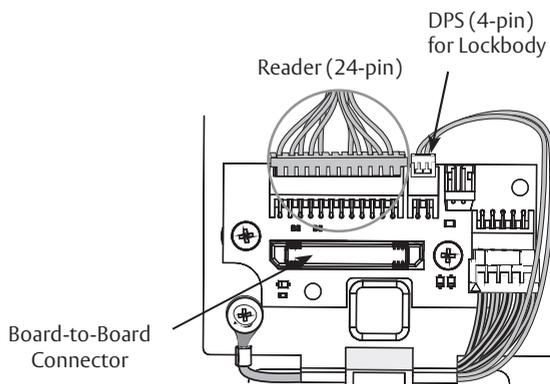

Fig. 6F
- k. Secure 24-pin card reader connector. (Figure 6F)